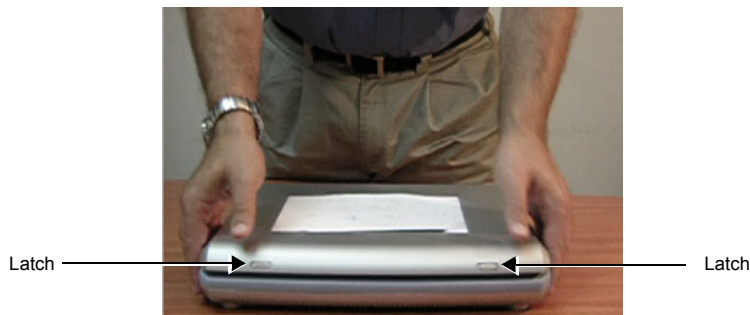

Figure 8-1 Closing Vivid-i™/ Vivid-q™ LCD Cover
- 1) Close the Vivid-i™/ Vivid-q™ LCD cover, making sure both front latches are securely fastened (Figure 8-1).